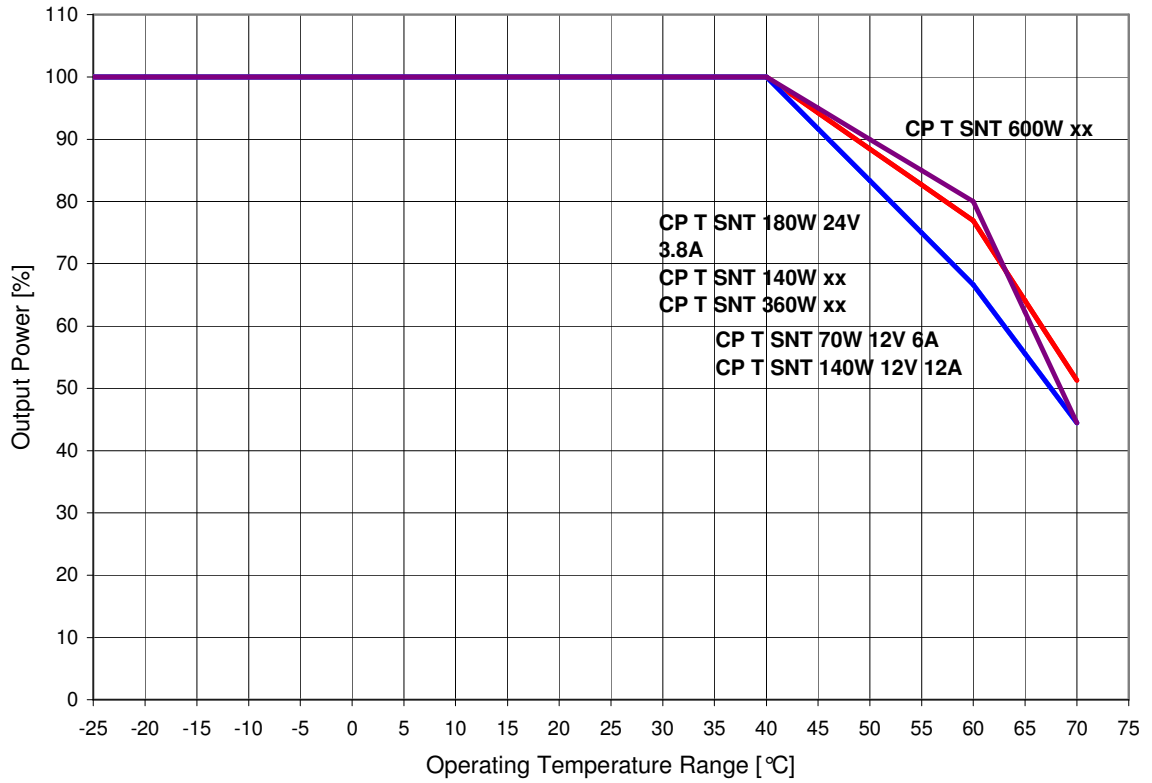
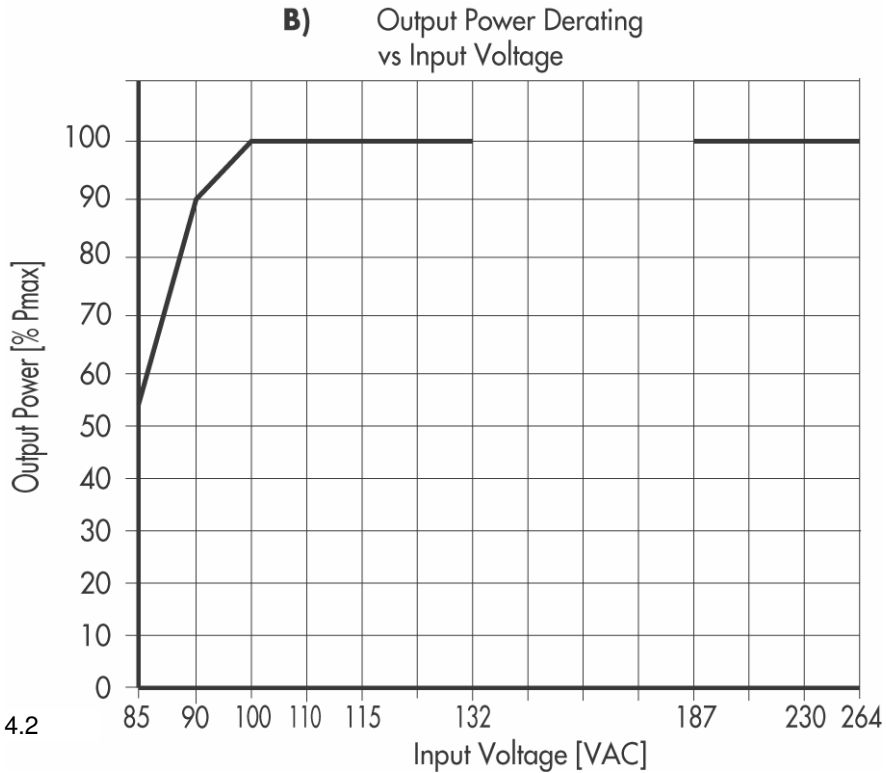

Fig.: 4.1
Fig.: 4.2
The device should not be operated at higher loads than indicated on the derating graphs → Fig. 4.1 and Fig. 4.2). The device does switch off at thermal overload. After sufficient cooling the device will switch on again.
* Observe output current derating at operation below an input voltage of 110VAC (see Fig. 4.2).